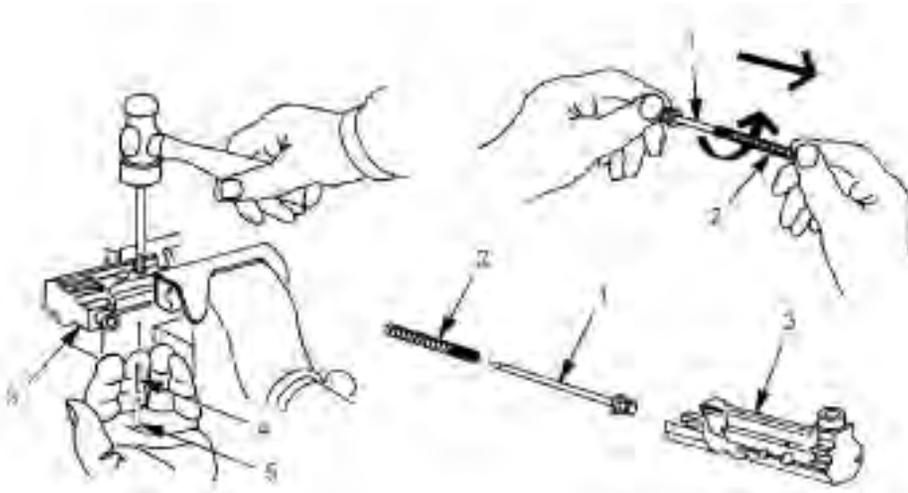

Figure 1. Slide Assembly in Vise.
1. Place slide assembly (Figure 1, Item 3) in protective jawed vise. Drive out spring pins (Figure 1, Item 4) and (Figure 1, Item 5) from slide assembly (Figure 1, Item 3). Discard both spring pins (Figure 1, Item 4) and (Figure 1, Item 5).
2. Remove firing pin (Figure 1, Item 1) and separate firing pin spring (Figure 1, Item 2) by holding firing pin (Figure 1, Item 1) in left hand and rotating spring counterclockwise (CCW) while withdrawing from firing pin (Figure 1, Item 1).
3. Replace firing pin (Figure 1, Item 1) if bent, chipped, broken, or not rounded.
4. Replace firing pin spring (Figure 1, Item 2) if broken, kinked, or elongated coils exist.